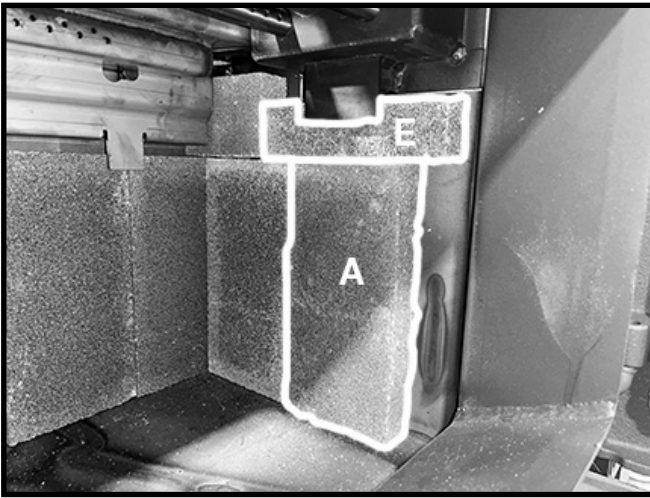

Figure 21. Second side wall bricks in place.
5. Next, place an "E" firebrick up under the side brick retainer tab and stand another "A" brick beside the first one under the "E" firebrick Figure 21.